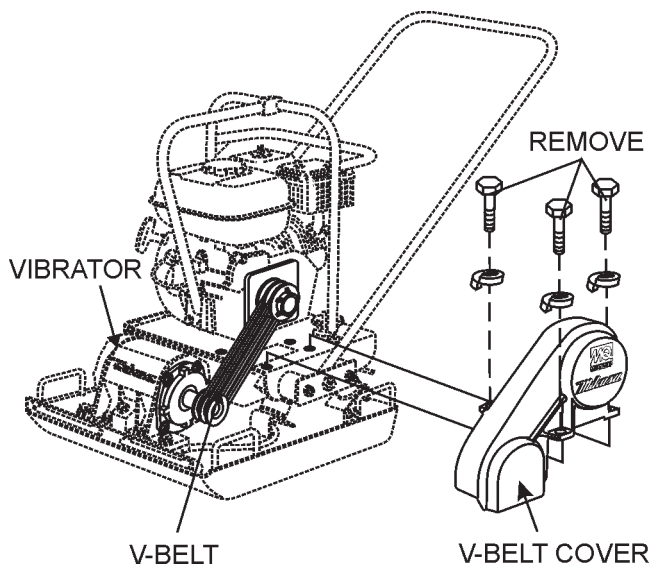

Figure 22. V-Belt Cover Removal
1. To check the V-belt tension, remove the three bolts that secure the belt cover to the frame as shown in Figure 22.